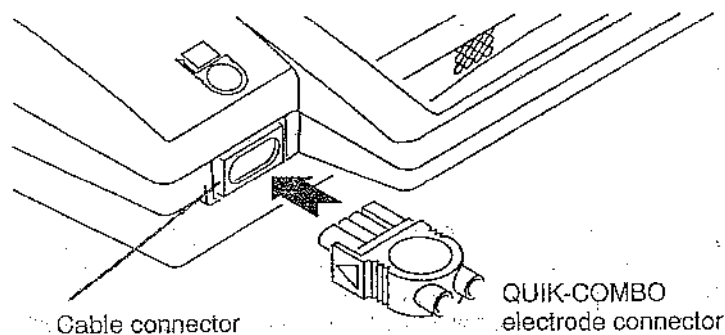

Figure 2-5 Connecting the QUIK-COMBO electrodes
- 3 Insert the electrode connector firmly into the QUIK-COMBO connector on the AED as shown in Figure 2-5.
- 4 When ready for patient use, open the electrode package and connect the electrodes to the AED as shown in Figure 2-5 above.